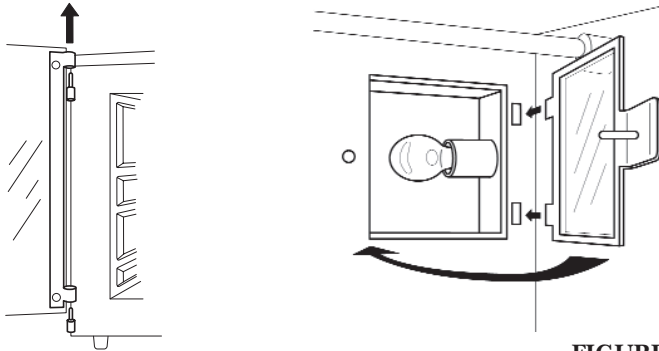

FIGURE 9
2. To remove the Oven Door, open and lift upwards and off of the door pins. (See figure 9).